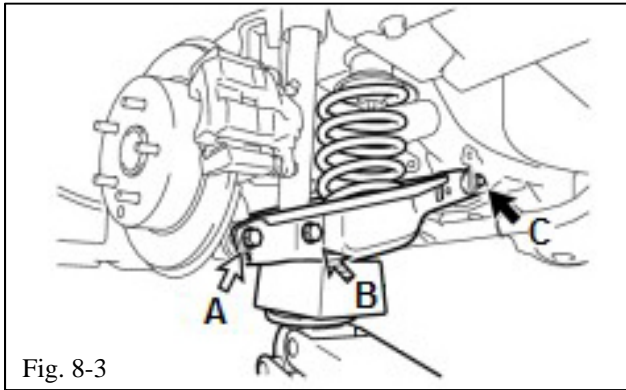

Fig. 8-3
- (f) Fasten the rear No. 2 suspension arm assembly to the rear axle assembly with bolt A and nut (Fig. 8-3).